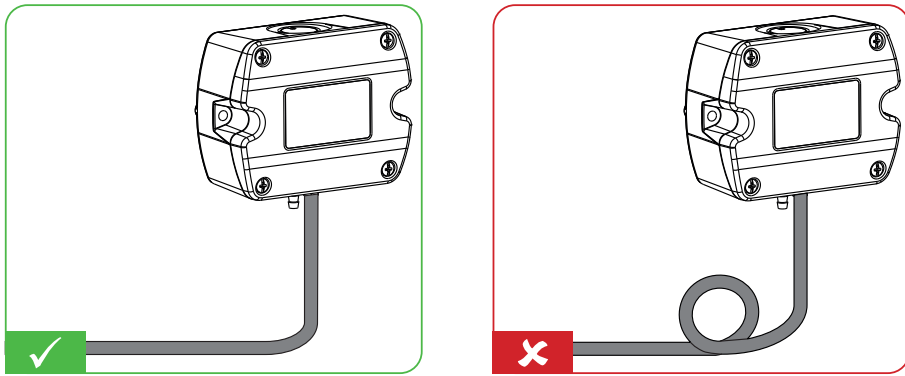

Fig. 9 Pressure hose route
- Connect the pressure hose (included in the scope of supply) first to the EE610 and then to the nipples at the duct. Route the pressure hose for avoiding sharp bends which might lead to the hose obstruction (Fig. 9 Pressure hose route).